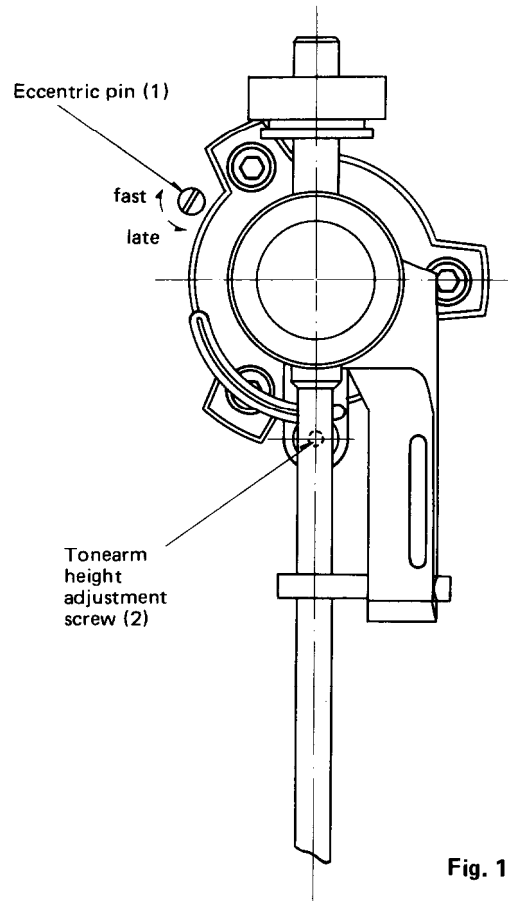
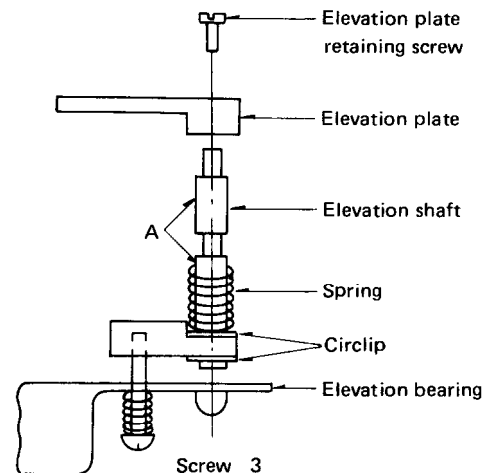

Fig. 1
Fig. 2
Auto-return position adjustment is made using the eccentric pin (1) in Fig. 1.
Height adjustment is made using the lifter plate retaining screw (2) in Fig. 1. Adjust the screw for 18 mm height between the stylus tip and the turntable platter. Turning screw (2) clockwise lowers the tonearm counter-clockwise raises it : It is also possible to make the adjustment using screw (3) in Fig. 2. Turning the screw in raises the tonearm and backing it off lowers it. (Note: The tonearm height adjustment is performed simultaneously for auto-return and manual tonearm raising (by cue). Autoreturn and manual cue cannot be adjusted separately.)
- 1) Remove the elevation plate retaining screw in Fig. 2.